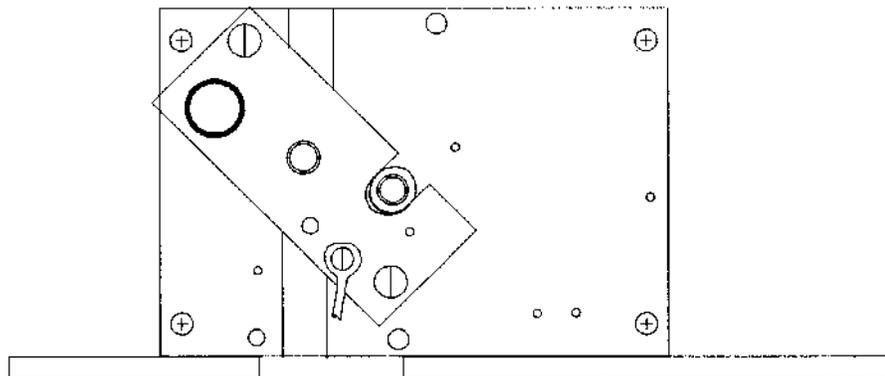

Figure 155 Chuck Holder Plate Mounting to Tighten Rotary Chuck
3. Position the wrench portion of the chuck holder plate on the rotary shaft. (See Figure 155.)